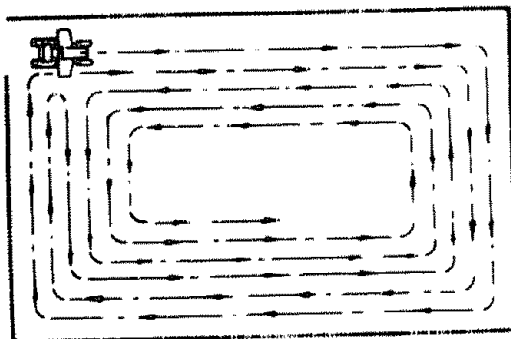

FIGURE 18
- When mowing large areas (Fig. 18), start by turning to the right so that the clippings will be discharged away from shrubs, fences, driveways, etc. After two or three rounds, mow in the opposite direction making left hand turns until finished.